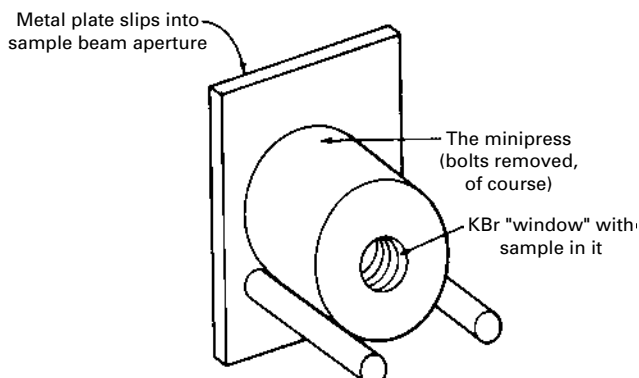

FIGURE 32.14 The minipress in its holder.
6. Put the entire press in a holder placed in the analyzing beam of the IR, as in Fig. 32.14. (Don't worry about that yet; I'll get to it in a moment. See "Running the Spectrum.")